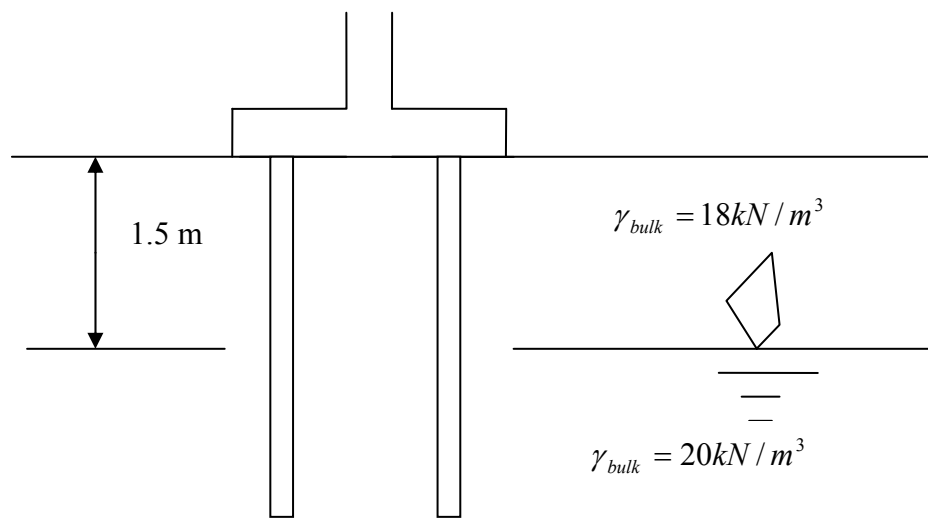

Figure 6 – Pile foundation in clayey/sandy ground
6. The column load on a footing has been calculated as 1.0 MN. You need to design a pile foundation to cater 3 times of the given column load, i.e., FOS = 3.0. You have decided to have at least 2 piles for each column, each pile is concrete, and 0.1m in diameter. The water table is 1.5m below ground surface. The material above the water table has a bulk unit weight of 18 kN/m³ and below water table, 20 kN/m³. A schematic diagram of the case is given in Figure 6.